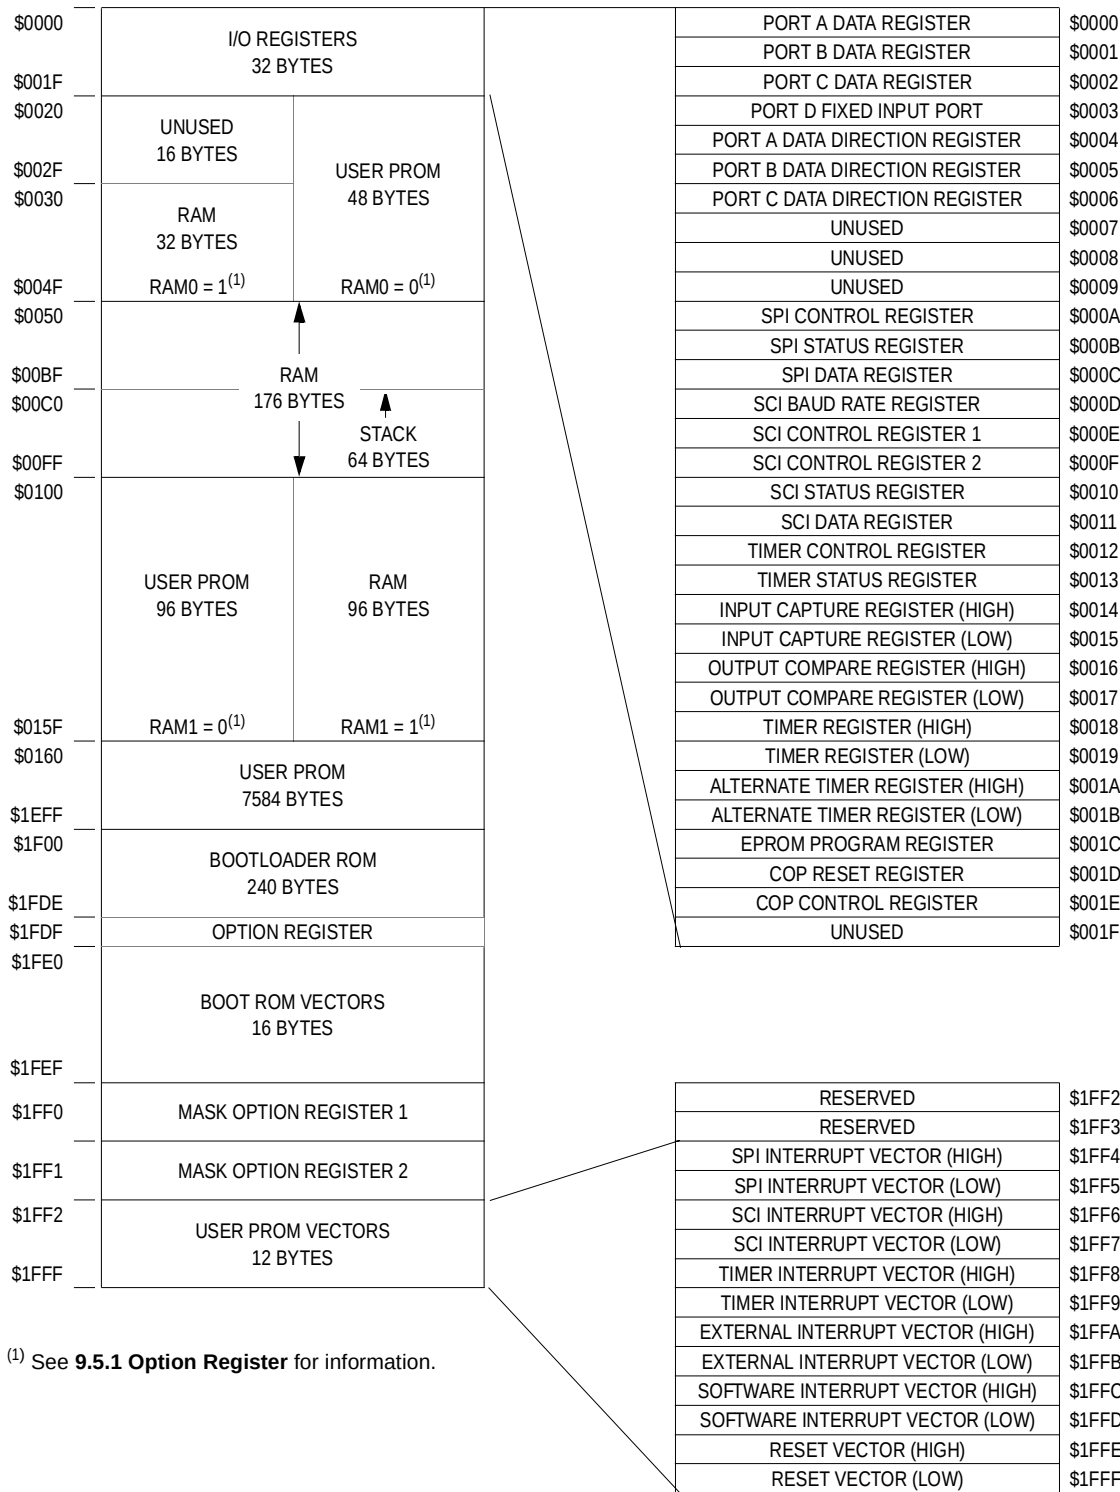

Figure 2-1. Memory Map
**Figure 2-1** is a memory map of the MCU. Addresses \$0000–\$001F, shown in **Figure 2-2**, contain most of the control, status, and data registers. Additional I/O registers have these addresses: